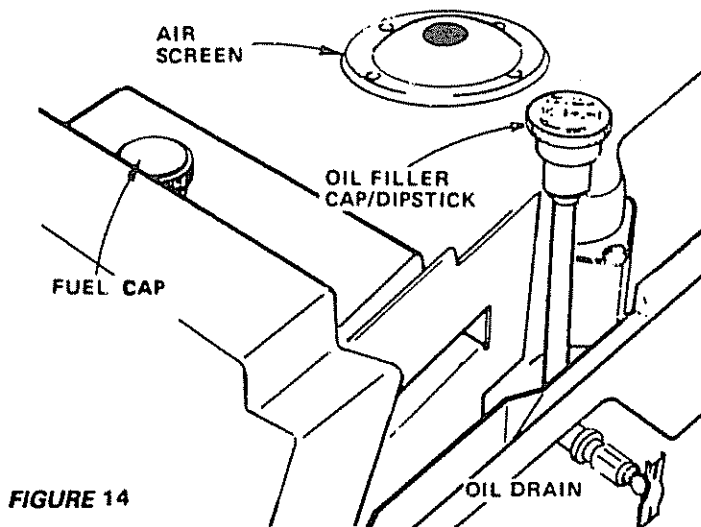

FIGURE 14
- b. Add oil through the oil filler cap/dipstick (Fig. 14).
Several minutes after stopping engine, check engine oil level with tractor on level ground. Wipe dipstick (Fig. 14) clean, screw it down tight for a few seconds, remove and read oil level. If necessary, add oil until "FULL" mark is reached. (See chart above). NOTE: DO NOT OVERFILL.
Air screen (Fig. 14) must be kept free of dirt and chaff to prevent engine damage from overheating. Clean with a wire brush or compressed air to remove dirt and dried gum fibers.